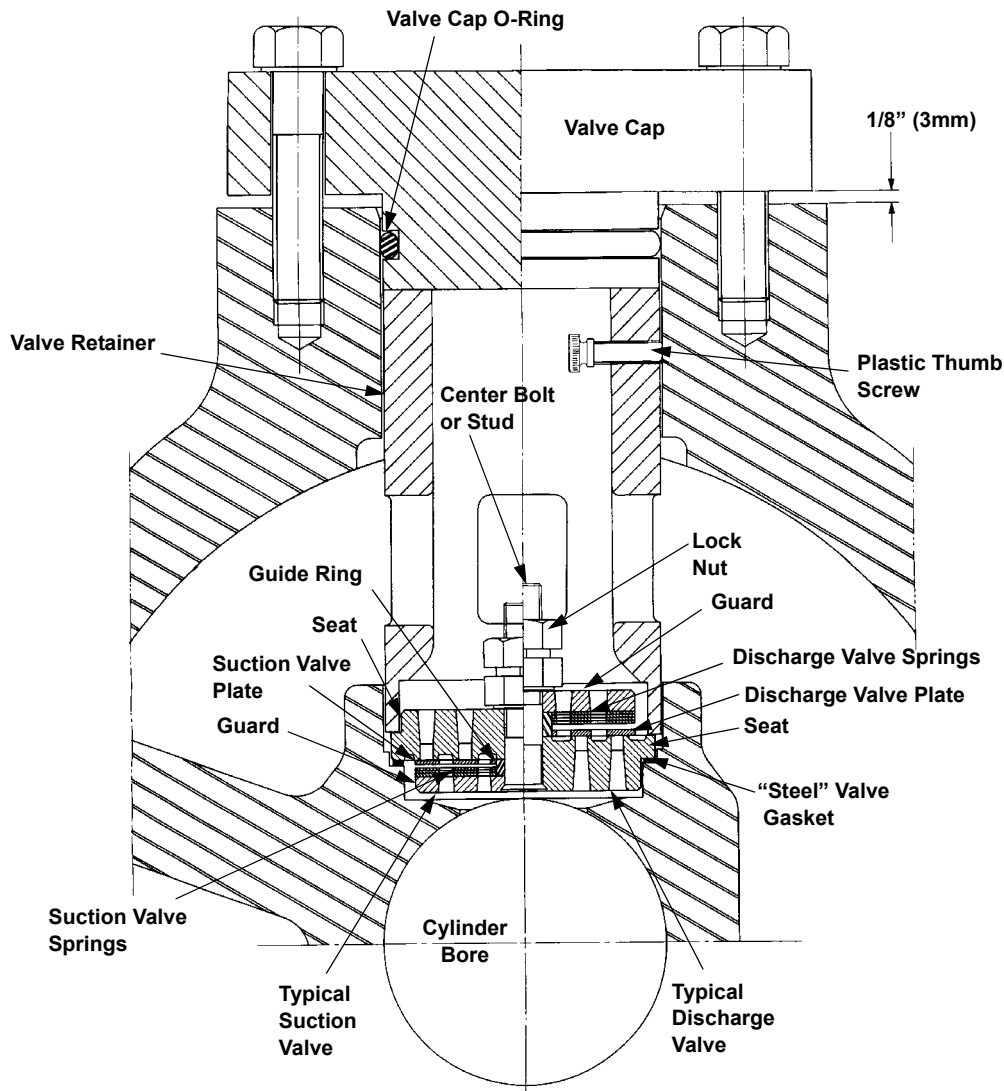

FIGURE 5-19: TYPICAL VALVE ASSEMBLIES
1. Slightly loosen all of the bolts on each valve cap. With all the bolts loose, the cap should stay in its original position. If it pushes out on its own accord-stop! Take steps to completely vent the cylinder. See Caution above. A typical valve assembly is shown in Figure 5-19: on Page 5-34.